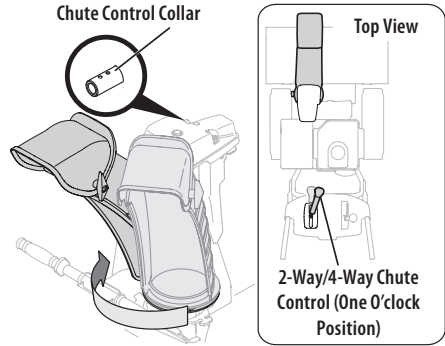
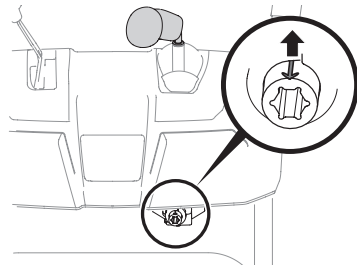

Figure 22
Figure 23
4. Squeeze trigger on 2-way/4-way chute control and rotate chute by hand to face forward. The holes in chute control collar will be facing up (Figure 22).
5. Rotate 2-way/4-way chute control to one o'clock position (Figure 22) so that indicator arrow on pinion gear below control handle faces upward (Figure 23).